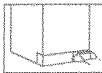

Fig1
1) Pick up the bottom cover lightly (Fig. 1);